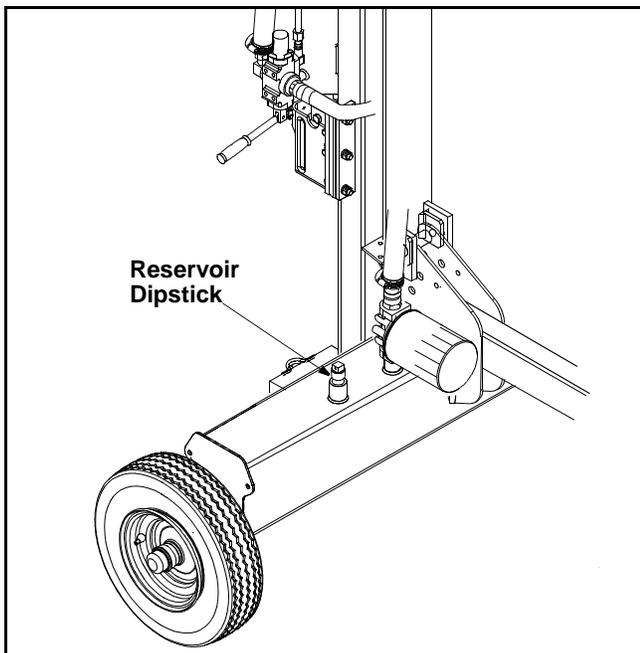

Figure 11
- Remove vented reservoir dipstick, which is located in front of the engine on top of the reservoir tank. See Figure 11.